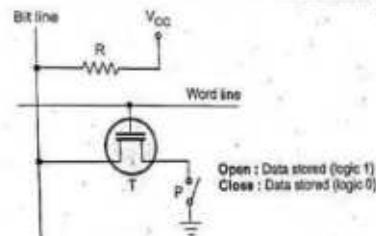

Fig. 7.5.1 ROM cell
- The Fig. 7.5.1 shows the typical configuration of a ROM cell. It consists of a transistor T and switch P. The transistor T is driven by the word line. The contents of cell can be read from the cell when word line is logic 1. A logic value 0 is read if the transistor is connected to ground through switch P. If switch P is open, a logic value 1 is read. The bit line is connected through a resistor to the power supply. A sense circuit at the end of the bit line generates the proper output value. Data is stored into a ROM when it is manufactured.